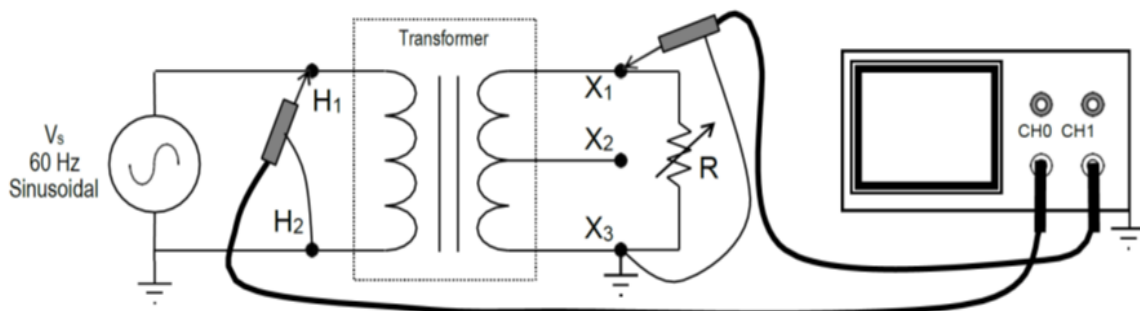

Figure 8.5: Testing Secondary Center Tap
1. Construct the circuit shown in Figure 8.5. Use a resistor substitution box for the resistor R, and initially set the value to 1000Ω .
2. Connect the oscilloscope across the transformer, as indicated in Figure 8.5: CHANNEL 1 across H1–H2; and CHANNEL 2 across X1–X3.